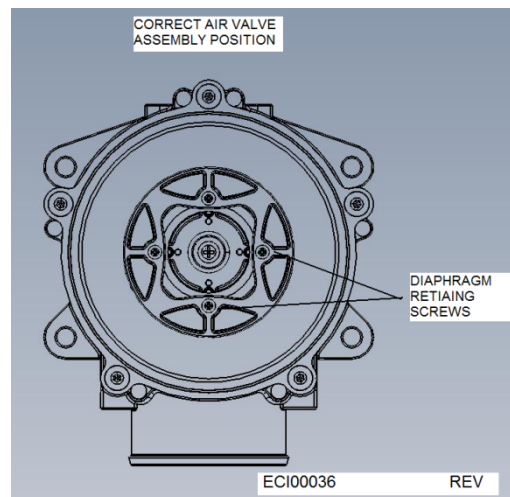

Figure 12 - Closed Loop Mixer Air Valve Position
11. Place the air valve assembly into the mixer body and align as shown, (Figure 12).
14. Hand start the five (5), previously removed cover screws.
11. Place the air valve assembly into the mixer body, and align as shown (Figure 12).
14. Hand start the five (5), previously removed, cover screws.